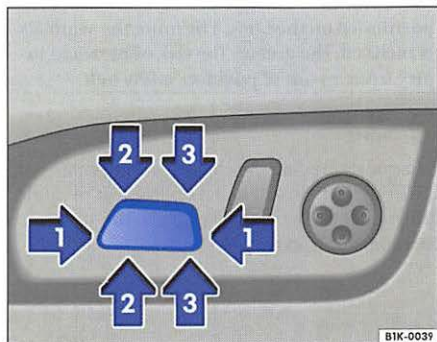
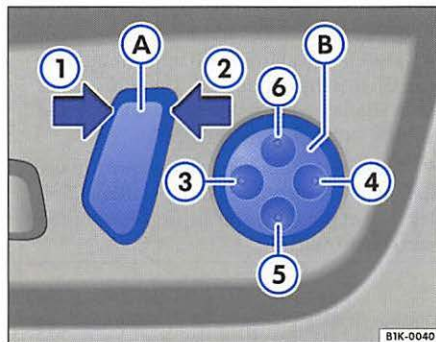

Fig. 44 Use the switch to adjust the seat backward and forward and also adjust the seat cushion for height and tilt
Fig. 45 Switch ① adjusts the backrest and switch ② adjusts the lumbar support
- Move the switch in the direction of the arrow ⇒fig. 44 ① to adjust the front seat either forward or backward ⇒⚠.
- Move the switch in the direction of the arrow ② or ③ to adjust the height of the seat cushion at the front or rear. At the same time, move the switch in the direction of the arrows ② and ③ to adjust the height of the seat.
- Move the switch ⇒fig. 45 ① in the direction of the arrow ① to recline the backrest further.
- Move the switch in the direction of the arrow ② to adjust the backrest to a more upright position.
- Press on the surface ③ on switch ⇒fig. 45 ② to increase the curvature of the lumbar cushion area on the seat.
- Press on the surface ④ on the switch to decrease the curvature of the lumbar cushion area on the seat.
- Press surface ⑤ on the switch to move the lumbar support down.
- Press surface ⑥ on the switch to move the lumbar support up.
- Switch ⇒fig. 44 adjusts the height and forward/backward position of the seat cushion. The angle and height of the seat cushion can be adjusted.
- Switch ⇒fig. 45 ① adjusts the backrest angle.
- Switch ② is for up/down and in/out adjustment of the lumbar support. The curvature of the cushioned area is determined by the settings made in the lumbar region. This supports the natural curvature of the spine very effectively. ►